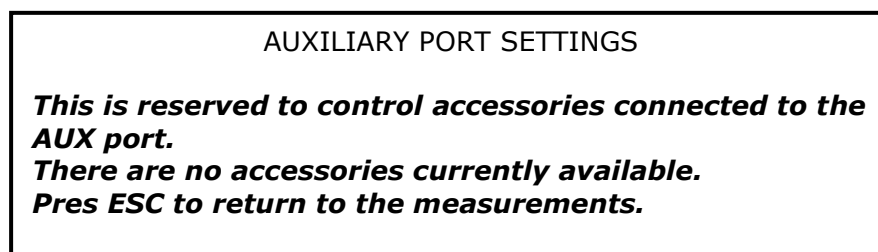

Figure 11.1
- 11 AUX KEY** - This is for the Auxiliary Port Settings and is for future applications, it is not functional at this time. The screen in Figure 11.1 appears when the key is pressed